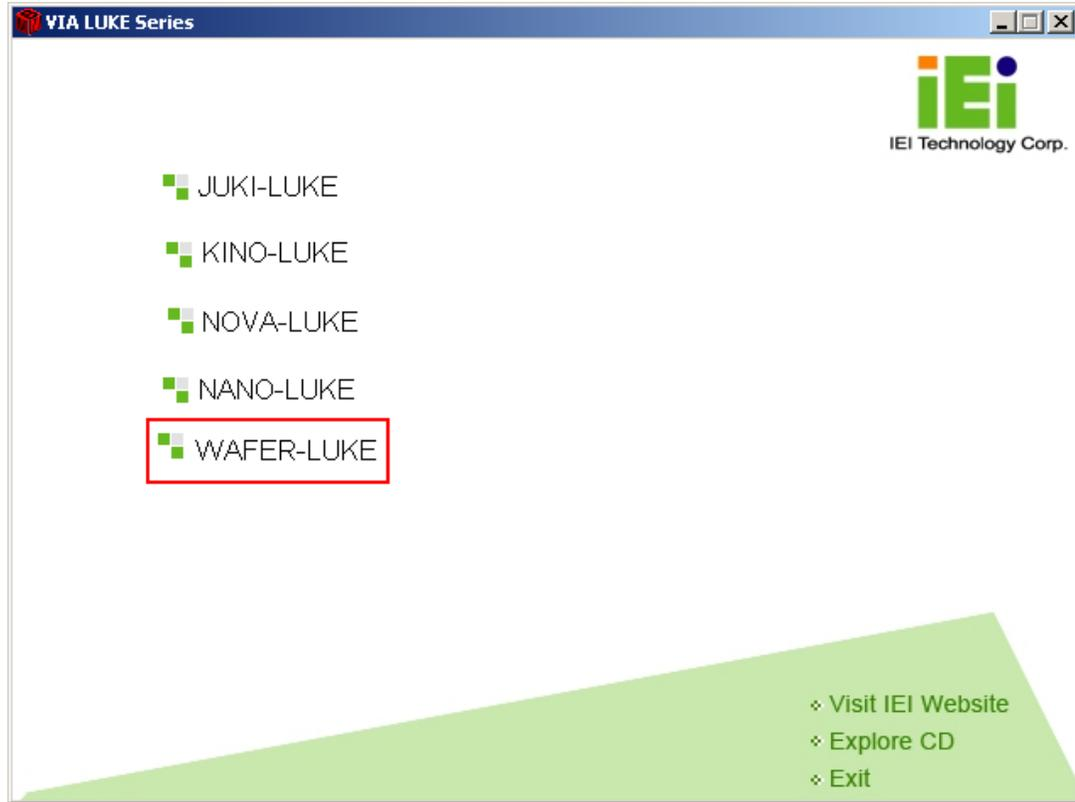

Figure 6-1: Access the WAFER-LUKE Drivers
Step 2: Select "WAFER-LUKE". (See **Figure 6-1**)